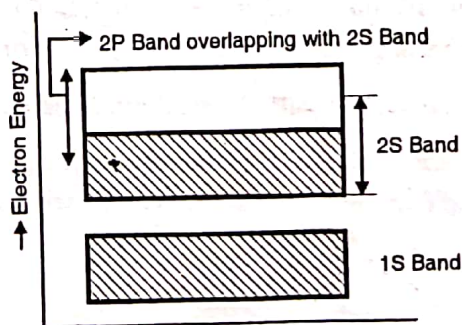

Fig. 2.4.2 : Energy bands in Beryllium
- The energy band diagram for Beryllium is shown in Fig. 2.4.2.